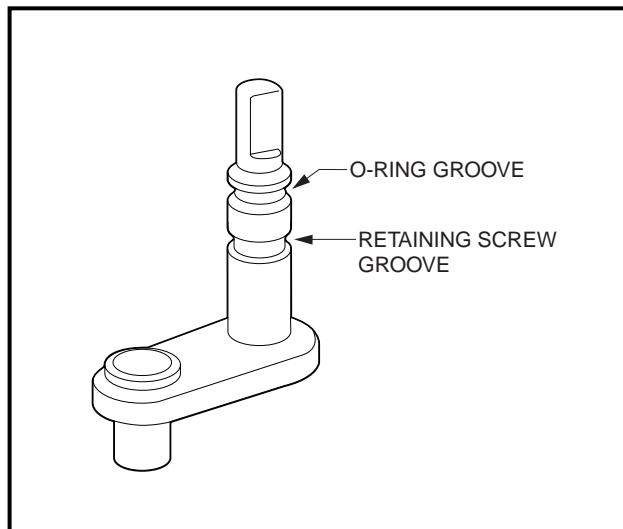

Figure 16-73 Differential Lock Shaft
1. If previously removed, slide the O-Ring into the top groove of the differential lock shaft (**Figure 16-73, Page 16-31**).